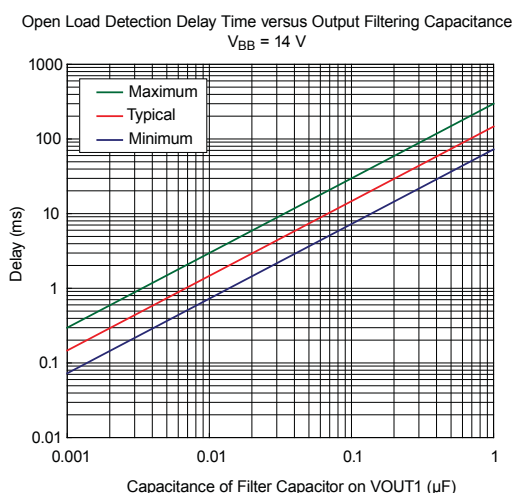

Figure 5. Delay to Open Load protection activation versus value of external capacitor on the output pins
- B. If a filtering capacitor is used at the outputs, it causes a delay of open load detection. (Refer to figure 5 for the relationship of the delay versus the filtering capacitor value.)